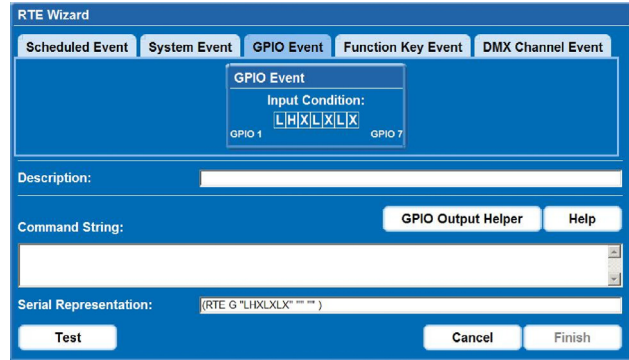

FIGURE 4-19 GPIO EVENT
3. For the **GPIO Event** option define the **Input Condition** field as required. The **Input Condition** field contains 7 blocks which refer to the 7 I/O pins on the GPIO connector. Pin 1 = +12V and Pin 5 = Ground are not included or changed. **2)** Clicking a block toggles between H, L, and X as shown in *Figure 4-19 GPIO Event*. See *Appendix B:* for detailed information.